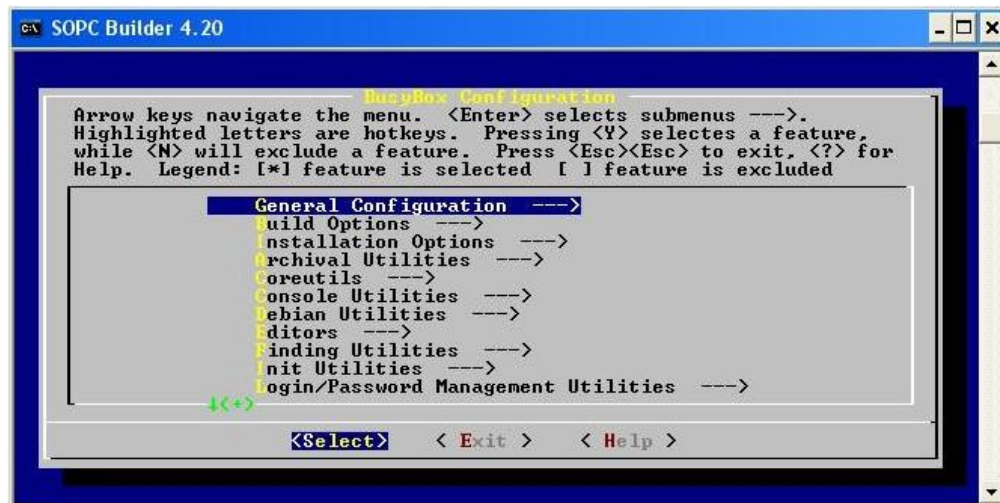

Figure 11: BusyBox Configuration
3. The BusyBox configuration window appears as shown in Figure 11.